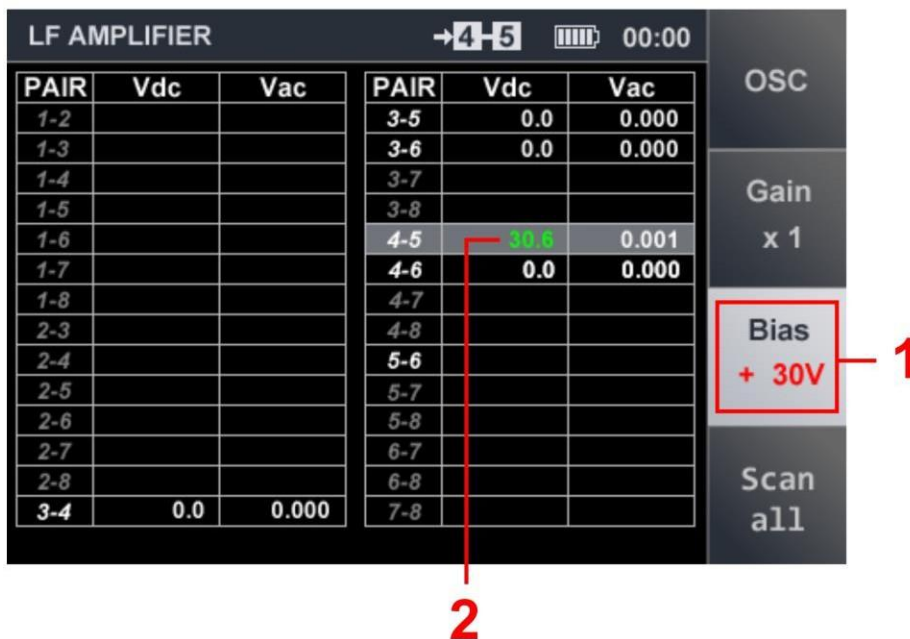

Fig.44
2. Using the keys \downarrow \uparrow select the bias voltage (-30 V or +30 V) which will be displayed on the screen (fig.44, 1 and 2). The bias voltage value will be marked green, and voltage in the circuit will be marked white.